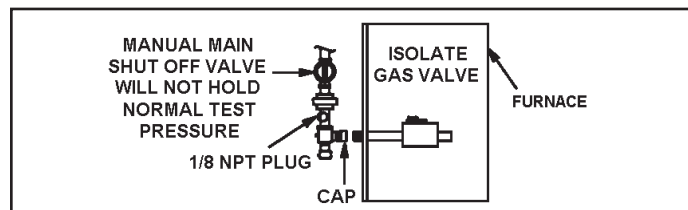

Figure 27.
5. A 1/8" N.P.T. plugged tap or pressure post is located on the gas valve to facilitate test gauge connection. See Figure 27.
When testing pressure of gas lines, gas valve must be disconnected and isolated. See Figure 27. Gas valves can be damaged if subjected to pressures greater than 1/2 psig (3.48 kPa, 14 inches w.c.).